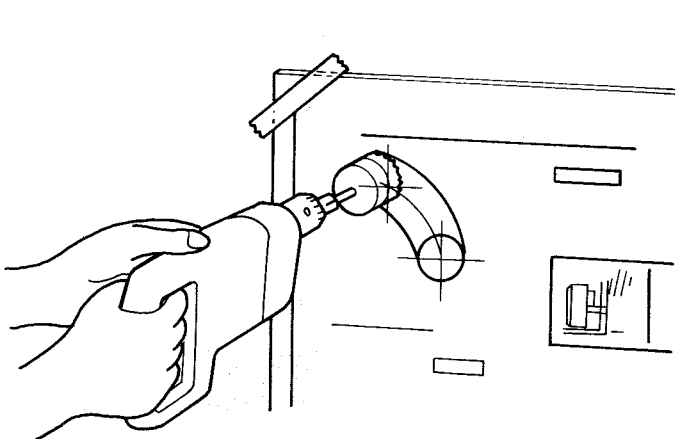

Fig. 5
4. Cut the hole for the telescoping flue pipe from inside the room. Use a 3-1/4" diameter hole saw attached to an electric drill (See Fig. 5). The opening on the inside wall should be slightly higher than the outside opening (approximately 1/2") so that the wall sleeve and the telescoping flue pipe will slope slightly downward (approximately 3 degrees) after it is installed (See Fig. 6). This will enable the draining of condensed moisture from the telescoping flue pipe to the outside and prevent rain or snow entering from outside after installation.